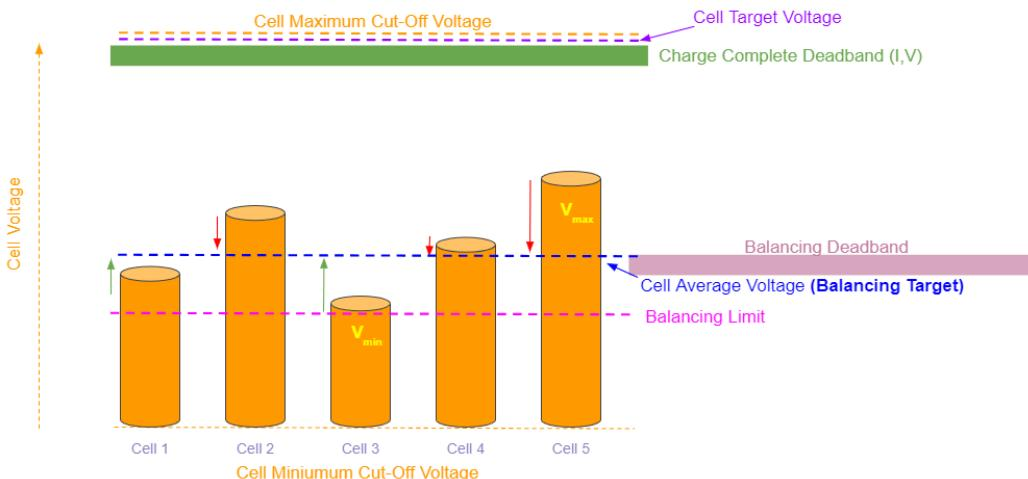
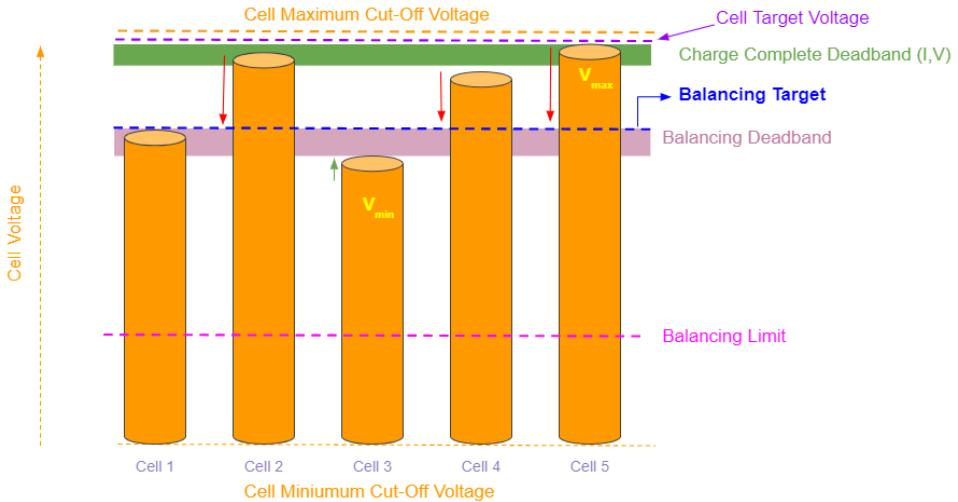

Figure 22 : Balancing algorithm for Case 1
Figure 23 : Balancing Algorithm for Case 2
This can be understood with the help of an example. Let us consider 5 li-ion cells undergoing the charging and balancing process managed by i-BMS15 (Refer Figure 22 & Figure 23)
- **Case 1 :** (Refer Figure 22) In this case, none of the cells have reached the ‘Charge Complete Deadband’ for voltage or current. Therefore, the balancing limit here is equal to the ‘Cell Average Voltage’. Cells 2, 4 & 5 will bleed (marked by red arrows) while cells 1 & 3 will undergo normal charging (marked by green arrows). The bleeding will continue until all the cells reach the ‘Balancing Deadband.’
- **Case 2 :** (Refer Figure 23) In this case, cells 2 & 5 have reached the ‘Charge Complete Deadband’ (voltage or current). Therefore, the balancing target is equal to (V_{min} + ‘Balancing Deadband’). Cells 2, 4 & 5 will bleed (marked by red arrows), cell 3 will undergo normal charging (marked by green arrows) while cell 1 will remain as it is because it is already in the ‘Balancing Deadband’. The bleeding will continue until all cells reach the ‘Balancing Deadband.’
Important Note : The above example depicts the balancing process when the pack is in ‘Charge Mode.’ It becomes important to understand that the balancing process is not only restricted to ‘Charge Mode’, the cells will also undergo balancing if the pack is outside of ‘Charge Mode’ (for e.g. ‘Ready Mode’). In that case, the algorithm remains the same but the cells will only bleed and not undergo charging simultaneously. In order to understand this better Refer Figure 22 & 23, the green arrows (depicting charging) will not be there in case of any mode outside of ‘Charge Mode.’